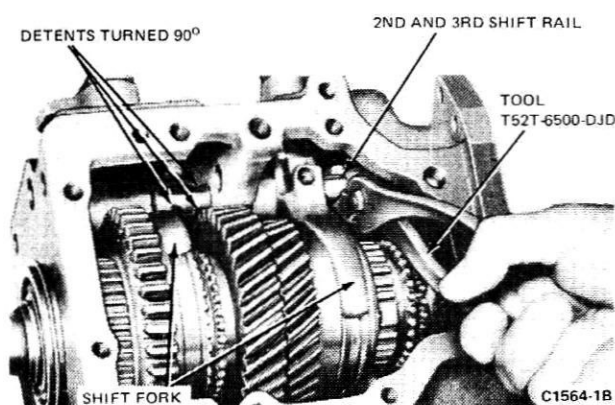

FIG. 8 Rotating Second- and Third-Speed Shift Rail
14. Move the second- and third-speed shift fork to the second-speed position for access to the set screw, and remove it from the fork. Rotate the shift rail 90 degrees (Fig. 8).